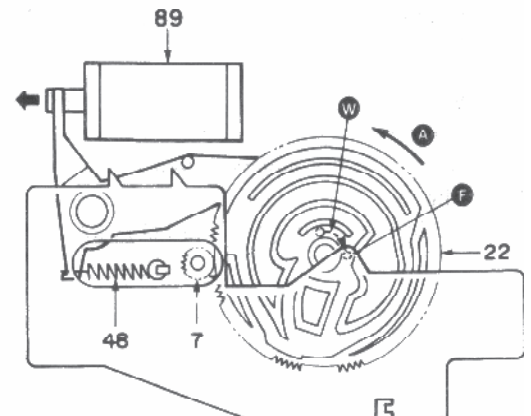

Fig. 17
4-4) The FD GEAR meshes with the GEAR (7) of the FI YWHFFI, and starts to rotate. The pin (F) of the SLIDER (11) passes through the orbit (W) and stops at position of Fig. 17.